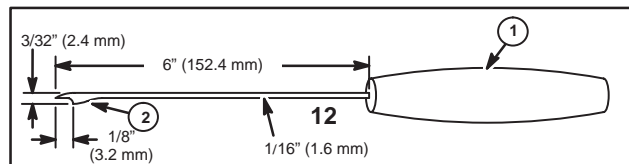

Fig. 13
A rope inserter tool may be made by using a piece of music wire or spring wire 1/16" diameter, and flattening the end (2) as shown in Fig. 13.
2. Insert rope through wood handle (1) and tie a figure eight knot, Fig. 13.